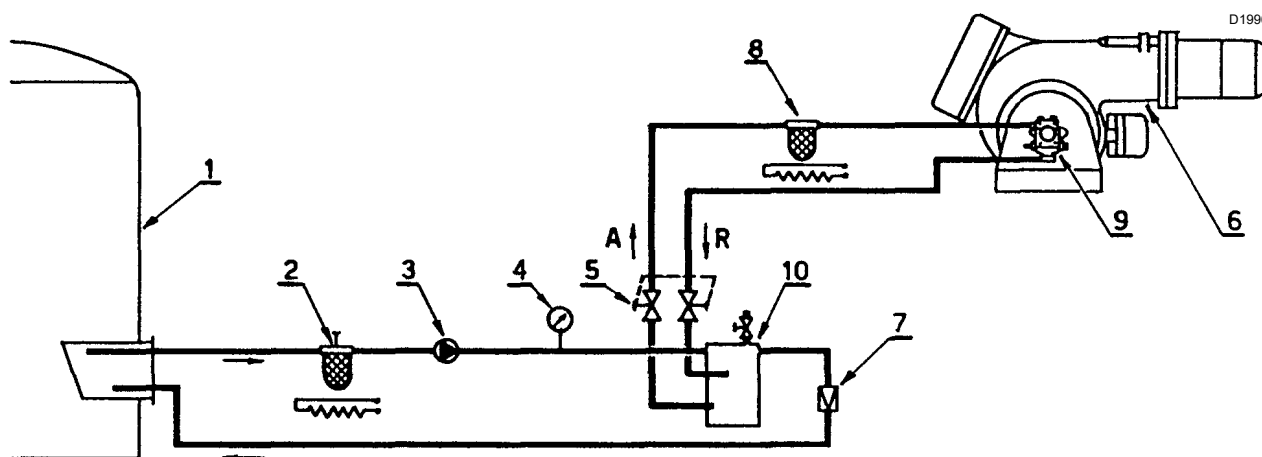

Fig. 19
- To limit the formation of gas or vapour, the fuel pressure in the degassing unit 10)(Fig. 19) must be adjusted according to the supply temperature as per the table above.